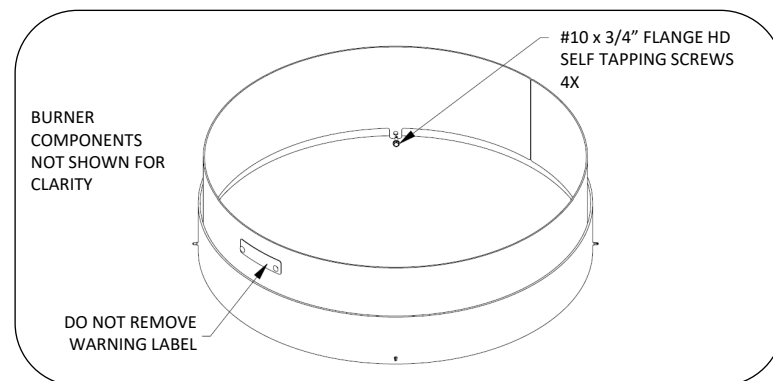

Fig. 2 – install windshield
4. Attach windshield to burner pan using (4) #10 x 3/4" flange head self tapping screws, see Fig. 2.